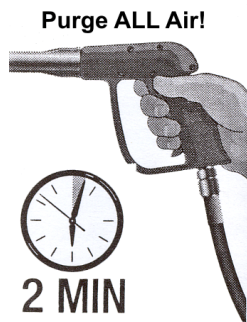

Fig. 6: Purge ALL Air!
- k. Depress trigger on spray wand (approx 2 min) until a steady stream of water is present to remove air from pump and high pressure hose (Fig. 6). Air in the pump causes cavitation. The hammering noise will be the pump self destructing. **BE SURE TO REMOVE ALL AIR FROM THE SYSTEM!**